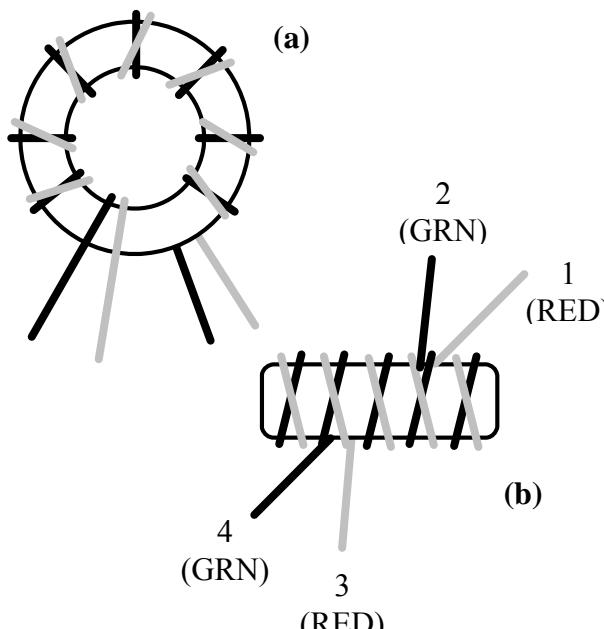

Figure 6-19
- Wind the twisted wires onto a 3/8" (9.5 mm) ferrite core (FT37-43), using exactly 10 turns. Use the same method you used when winding non-twisted wires, covering about 85% of the core. Figure 6-19 shows how the winding should look from two views (your turns count will be 10 rather than 8 as in the drawing).
- Clip and untwist the ends of the red/green pairs so that the leads of the transformer look like those in Figure 6-19 (b). The pin numbers shown match the component outline, with the red wires numbered 1-3 and the green wires numbered 2-4.
- Install T6 vertically, with the wires inserted as indicated in Figure 6-19 (b). Pull the leads taut on the bottom, then solder.